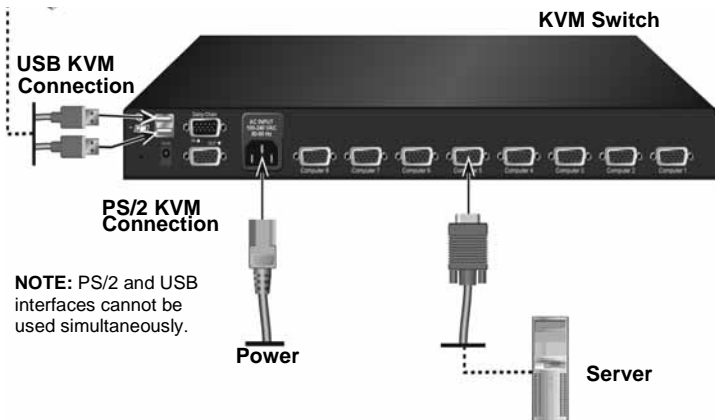

Figure 1.1: Basic Integrated LCD KVM Switch Server Configuration
3. Turn on all connected servers. Keyboard and mouse recognition is now activated and your Integrated LCD KVM Switch is ready for operation. Figure 1.1 below shows a basic configuration for the Integrated LCD KVM Switch.